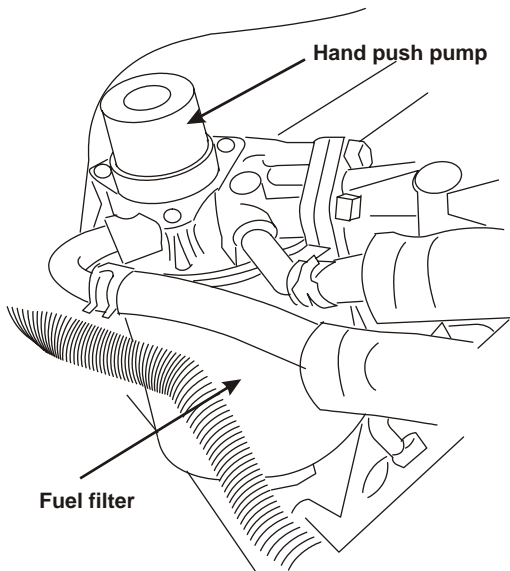

Figure 5.1
- Loosen the banjo fitting at the high point of the fuel module and pump the primer on the fuel filter (Figure 5.1) to bleed air from the system. Tighten the fitting.